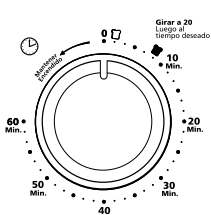

Figure 2
2. **Timer Selector Knob** – Adjust the dial to the desired cooking time (See Figure 2).